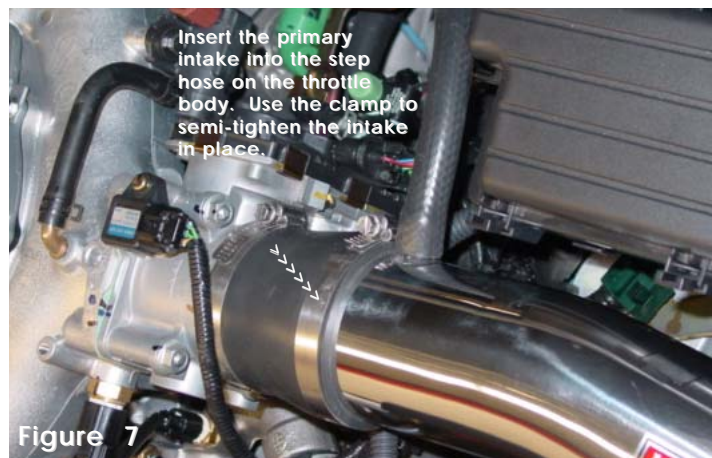

Figure 7
6. Take the cold air intake and press the top section into the step hose on the throttle body. Align the bracket located on the filter end of the intake to the vibra-mount stud and use the m6 nut and fender washer to hold the intake in place. Note: The filter end of the intake must be inserted into the resonator opening prior to pressing the top end into the step-hose on the throttle body. (See figs. 7 and 8)